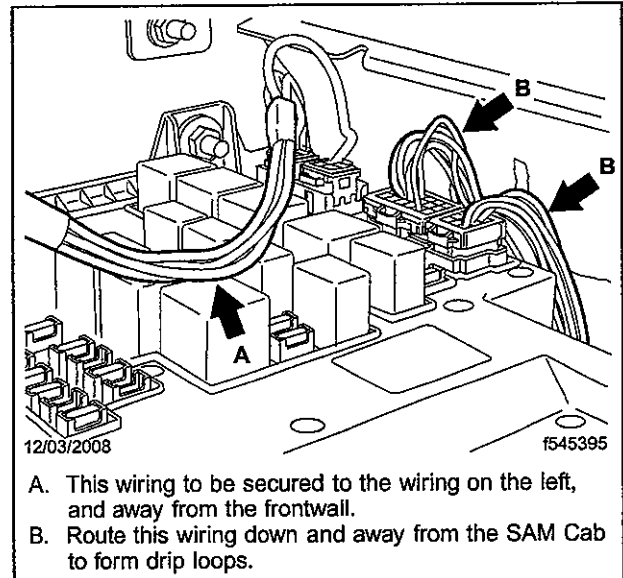

Fig. 4, SAM Cab Wiring
10. Connect all the interior wiring to the SAM Cab. Route the wiring from connectors X14 and X15 away from the frontwall. Use a tie strap to secure it to the harness at connector X8. Route the wiring harnesses from connectors X16 and X17 so they are situated downward through the opening to the right of the SAM Cab. See Fig. 4.